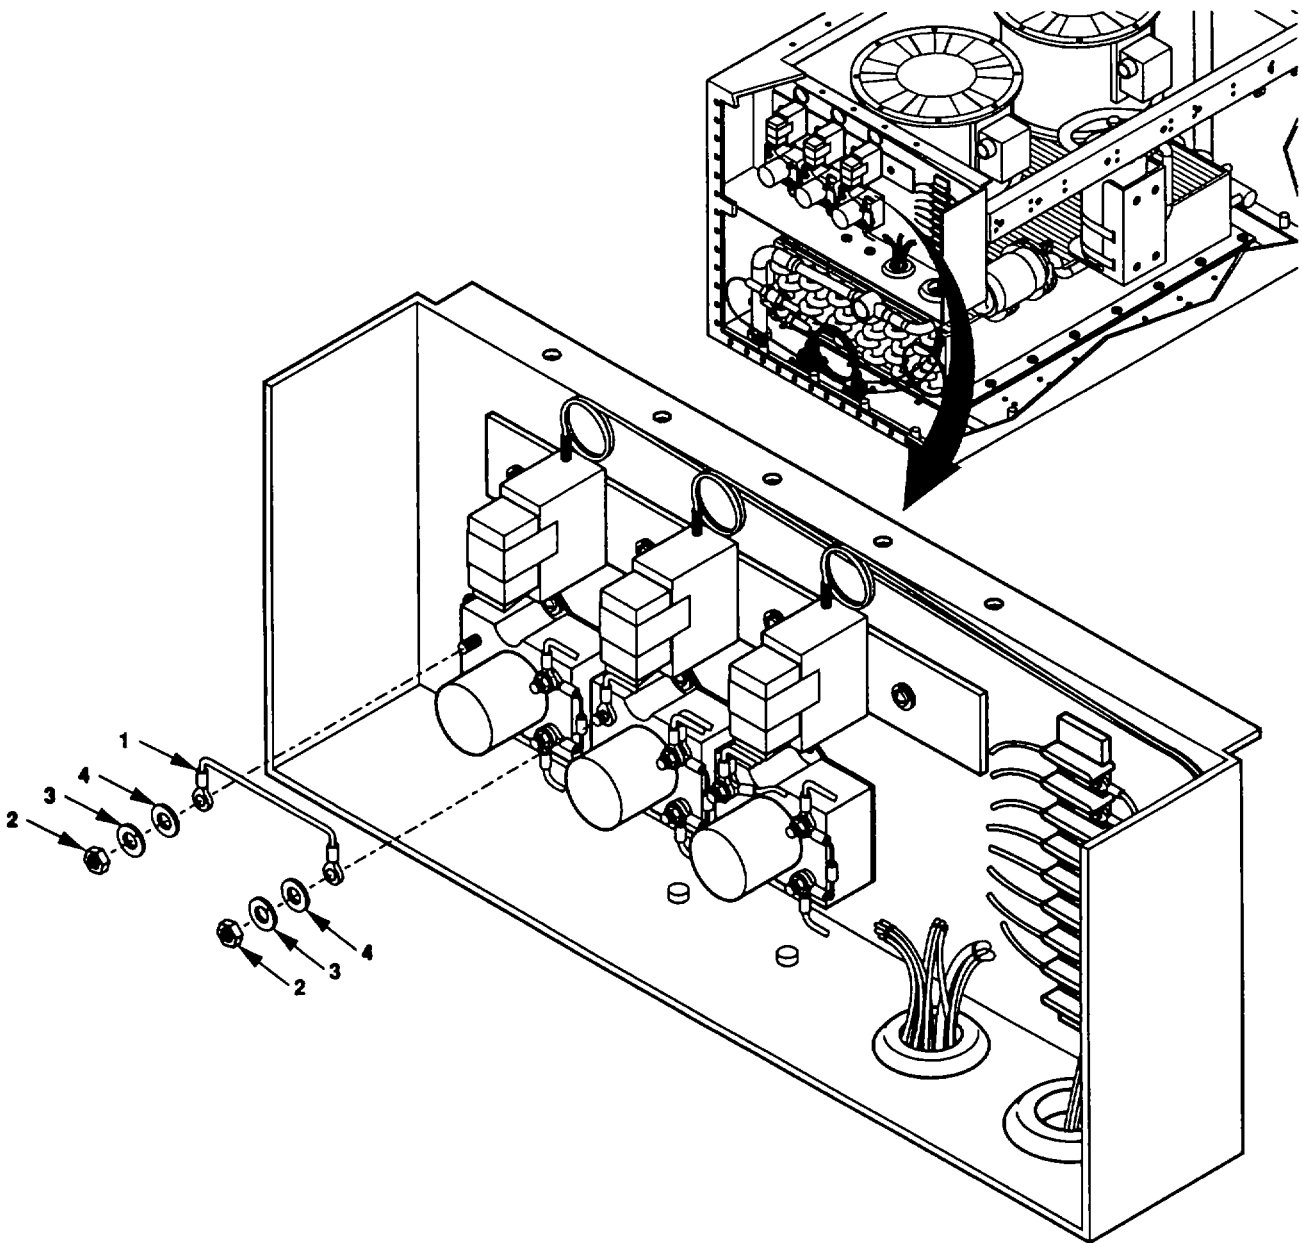

Figure 4-11. Electrical Lead Assembly Maintenance.
- (1) Refer to Appendix H, Figure H-2, Tables H-3 and H-4 to identify electrical lead assembly (Figure 4-11, 1) to be disconnected.